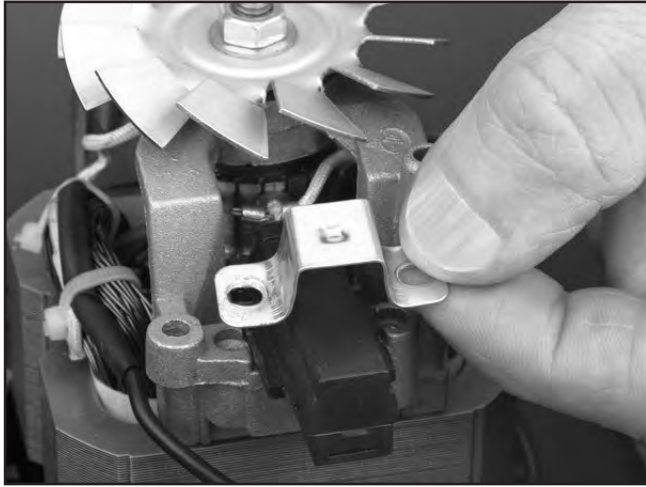

Figure 41. Brush retainer installation.
11. Place the brush housing into the brush seat on the motor, and place the retainer over the brush housing so the lock lug drops into the slot in the brush housing (see **Figure 41**).